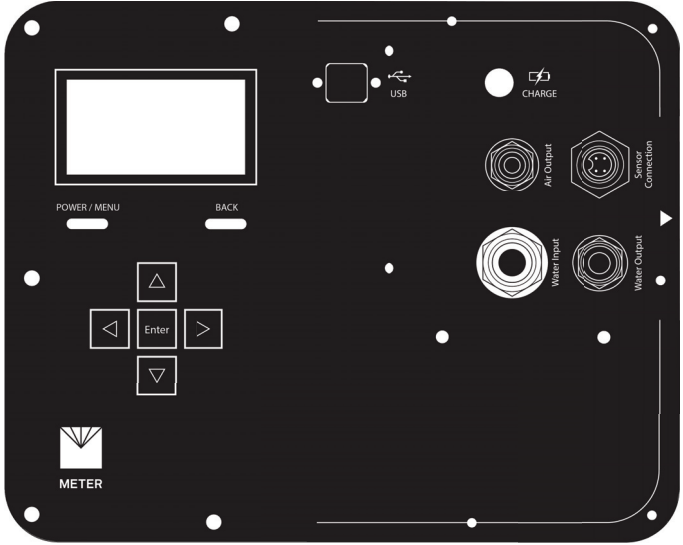

Figure 14 Control unit faceplate
- The SATURO control unit has seven buttons to navigate through screens and configure settings (Figure 14):